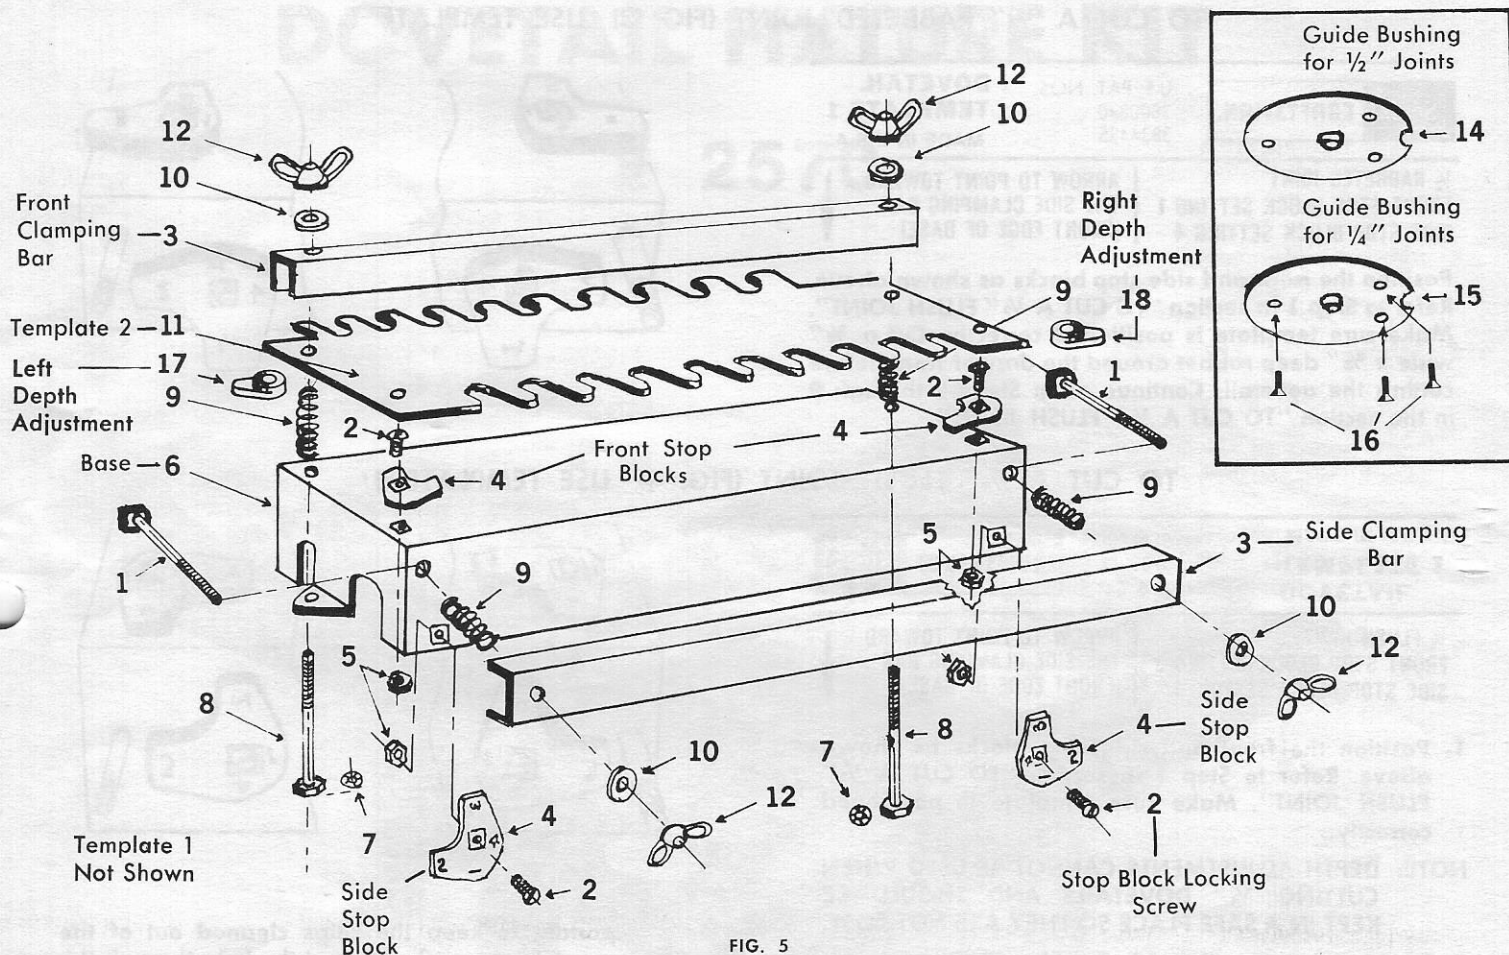

FIG. 5
Now refer to Fig. 5 and become familiar with the names of the various parts of your dovetail fixture. This will make the following instructions much easier to understand in the event that you are presently unfamiliar with dovetail joints.
is to the front edge of the base (key 6, fig. 5) where the side clamping bar (key 3, fig. 5) is located.
To change or reposition templates, remove the wing nuts, washers, and front clamping bar (keys 12, 10, and 3, fig. 5). Lift template (key 11, fig. 5) from fixture and reposition or change to the other template. When placing the template on the fixture make sure the depth adjustment with an "R" (key 18, fig. 5) is on the right side and the depth adjustment with an "L" (key 17, fig. 5) is on the left side, or else dovetails will not line up properly. (The depth adjustments have an "R" or an "L" molded on the back of the tab for identification). Make sure the raised diameter on the depth adjustments fits into the hole in the template.
2. Loosen wing nuts (Key 12, Fig. 5) until they are just at the ends of bolts (Key 8). Position tabs on both depth adjustments so they line up with front clamping bar, as shown in Fig. 10. This is done
2. Loosen wing nuts (key 12, fig. 5) until they are just at the ends of the bolts (key 8). Continue as in Step 3 in section "TO CUT A 1/2" FLUSH JOINT".